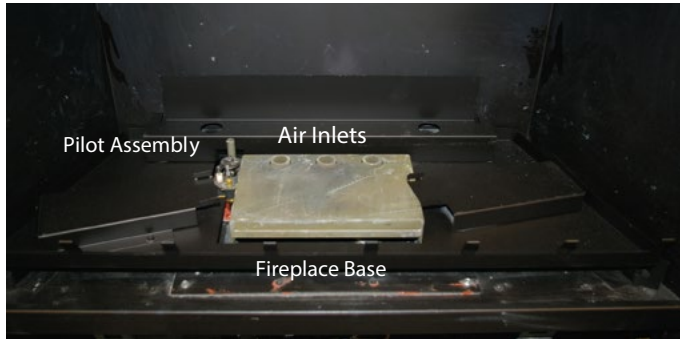
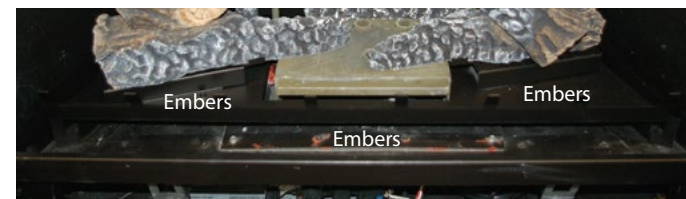

Figure 8a. H34VON's Fireplace Base.
Figure 8f. Placing Embers.
**Step 7.** Place the Embers as shown in **figure 8f**. Arrange the ember chips on top of the burner tray. Care should be taken when placing the embers, as blocked burner ports may cause an incorrect flame pattern, carbon deposits and delayed ignition. Also, the embers must never be placed in a way that obstructs any of the air inlet ports, located at the rear of the burner, as shown in **figure 8a**.